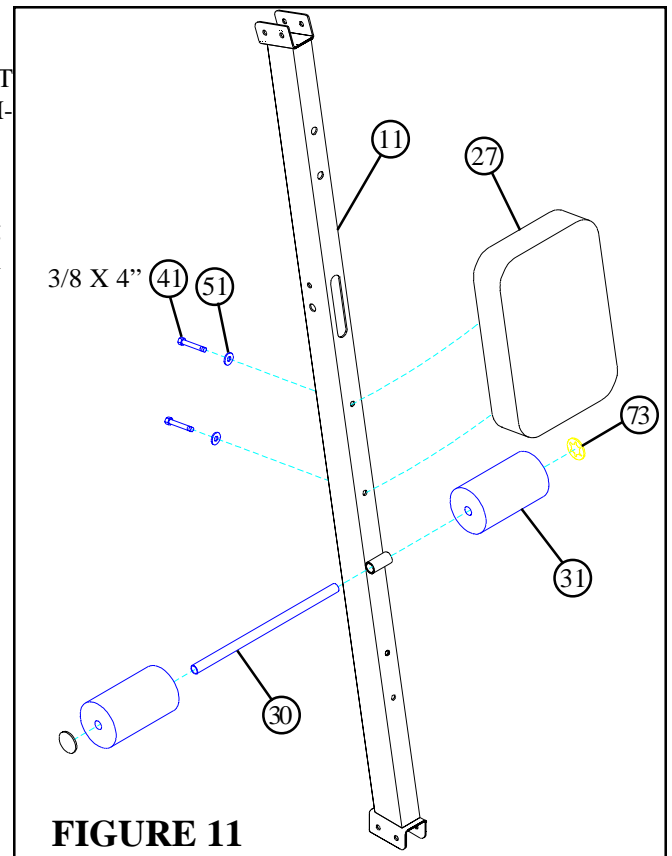

FIGURE 11
- Securely assemble the PEC SEAT PAD (27) to the FRONT UPRIGHT (11) as shown, using two 3/8 X 4" BOLTS (41), and two 3/8" WASHERS (51) as shown in FIGURE 11.
- Assemble two ROLLER PADS (31) to the FRONT UPRIGHT (11) using one 16" TUBE (30), and two STARLOCK COLLARS (73) as shown in FIGURE 11.